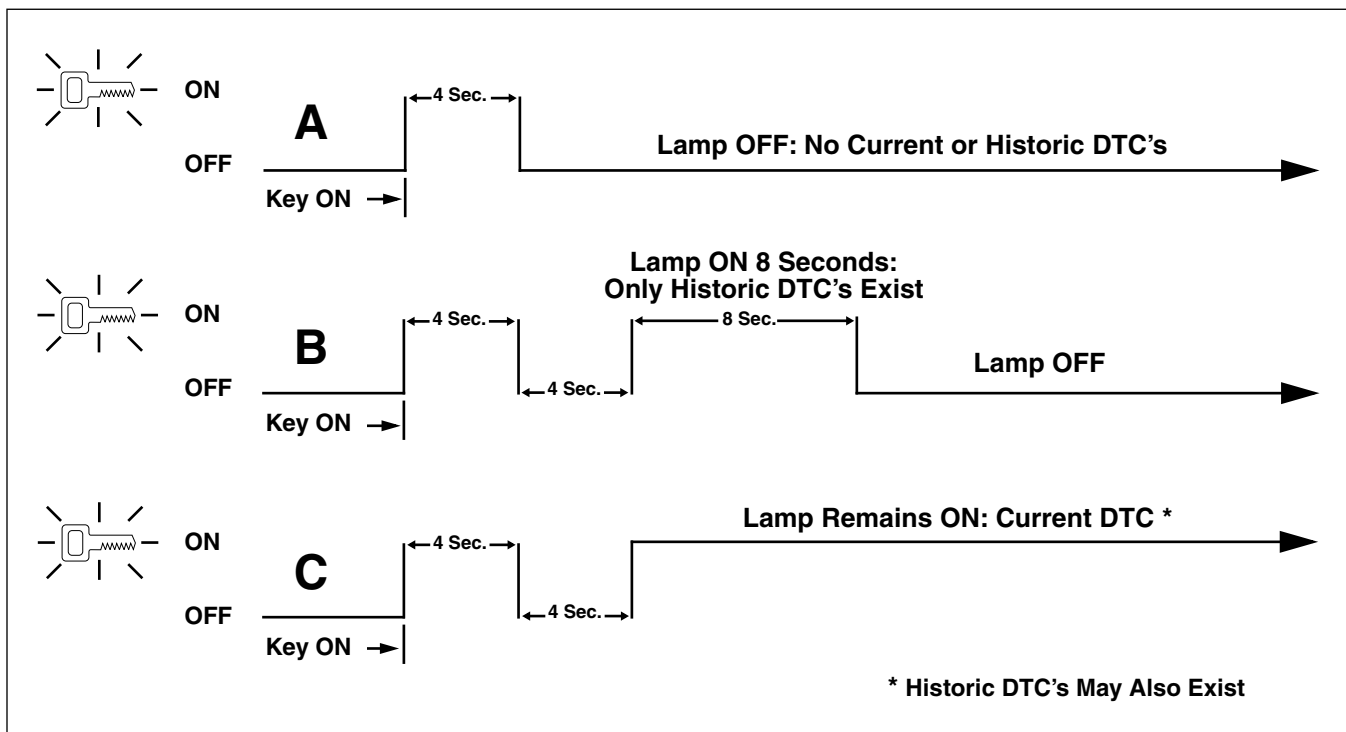

Figure 2-3. Check Engine and Security Lamp Operation
1. See Figure 2-3. After lamp turns off after being illuminated for the first four second period, one of three situations may occur.